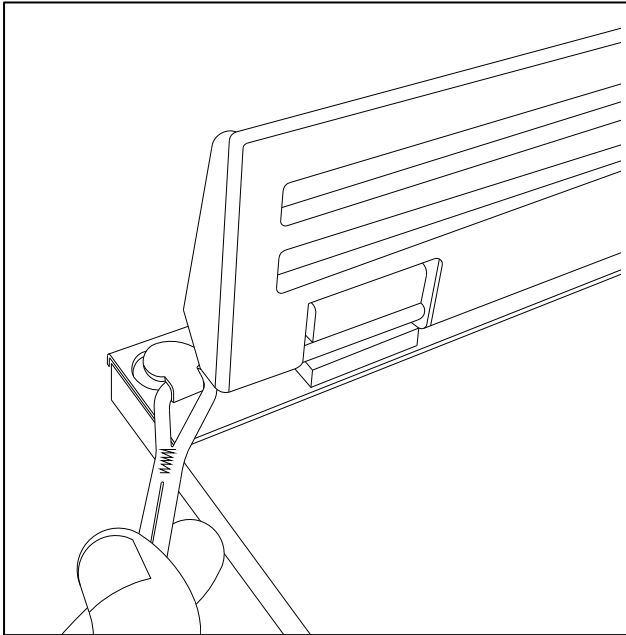

Fig. 1-4
- (d) Reach around the driver side edge of the Cargo Divider Door and install forward loop over the raised metal tab. (Fig. 1-4)